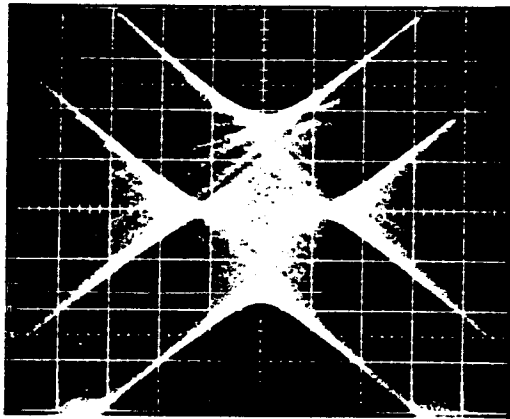

FIG. IV-2: EXPANDED PILOT PHASE
- (2) Turn the PILOT ON/OFF control ON. Apply the 500 Hz sinewave to the two input channels out-of-phase (if necessary, by reversing one of the balanced audio input connections), and trim the R IN ATTEN on the Optimod for a null on the L + R meter of the station stereo monitor. Increase the VERTICAL GAIN on the oscilloscope until adjustment of the Optimod PILOT PHASE control produces an easily observed tilt. Adjust the PILOT PHASE control for a level pattern as shown in Figure IV-2.